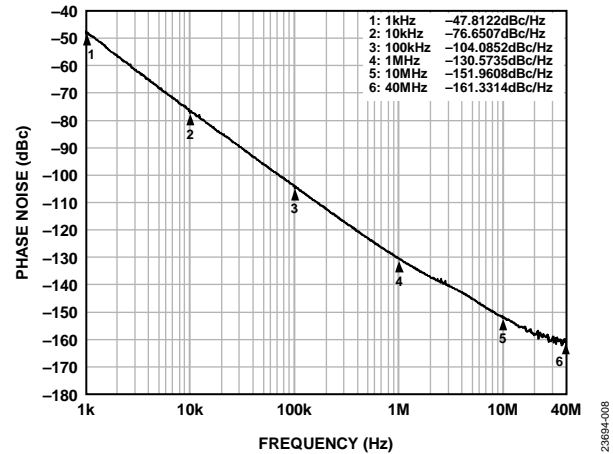

Figure 6. EV1HMC8074LP6G Open-Loop Phase Noise at RF1, VCO Band 1, VTUNE = 8.45 V, 9.2 GHz
3. Use the signal source analyzer to measure the phase noise. Refer to Figure 6.